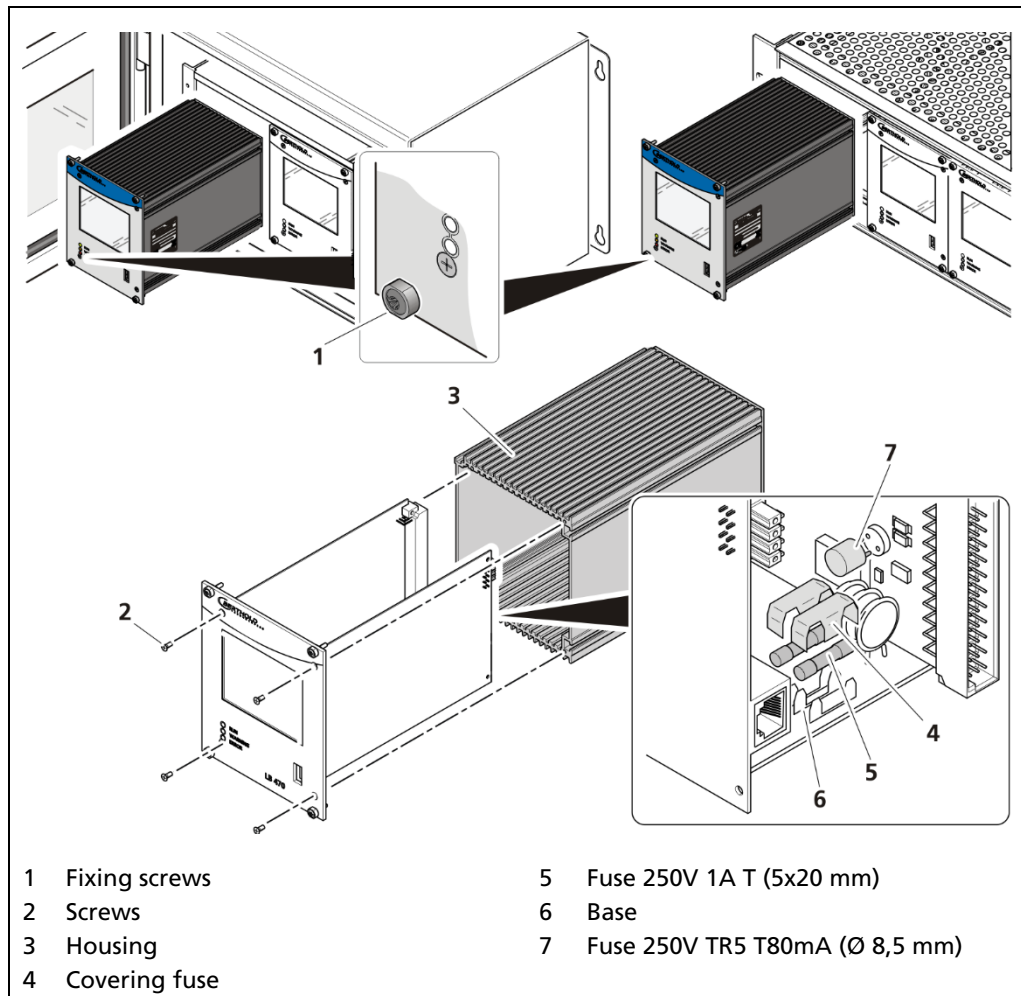

Fig. 129 Replacing fuses master EVU
2. Loosen the four fixing screws (Fig. 129, item 1) and remove the EVU from the wall housing or subrack.
3. Loosen the four sunken screws on the front side of the EVU (Fig. 129, item 2).
4. Pull out the housing (Fig. 129, item 3) carefully.
5. Remove the protective covering of the fuse (Fig. 129, item 4).
6. Remove the fuse (Fig. 129, item 5, item 7).
9. Screw the front panel to the housing with the four screws (Fig. 129, item 2).
11. Tighten all fixing screws (Fig. 129, item 1).